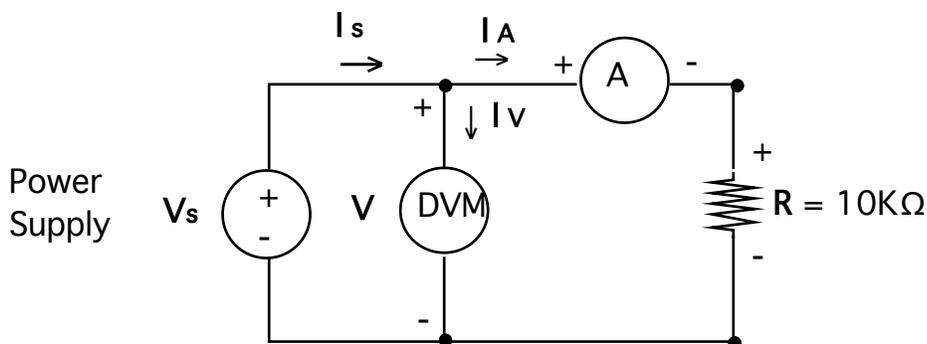

Fig. 5 Schematic Diagram of circuit for V-I measurement
Arrange the circuit of fig. 5 on the lab bench where each circle indicates a device and the circled **A** is an ammeter. As a matter of safe practice and convenience, get in the habit of following these rules:
5.1 In the experiment corresponding to Fig. 5, compute the resistance R of the given resistor using the following three methods and compare the results: